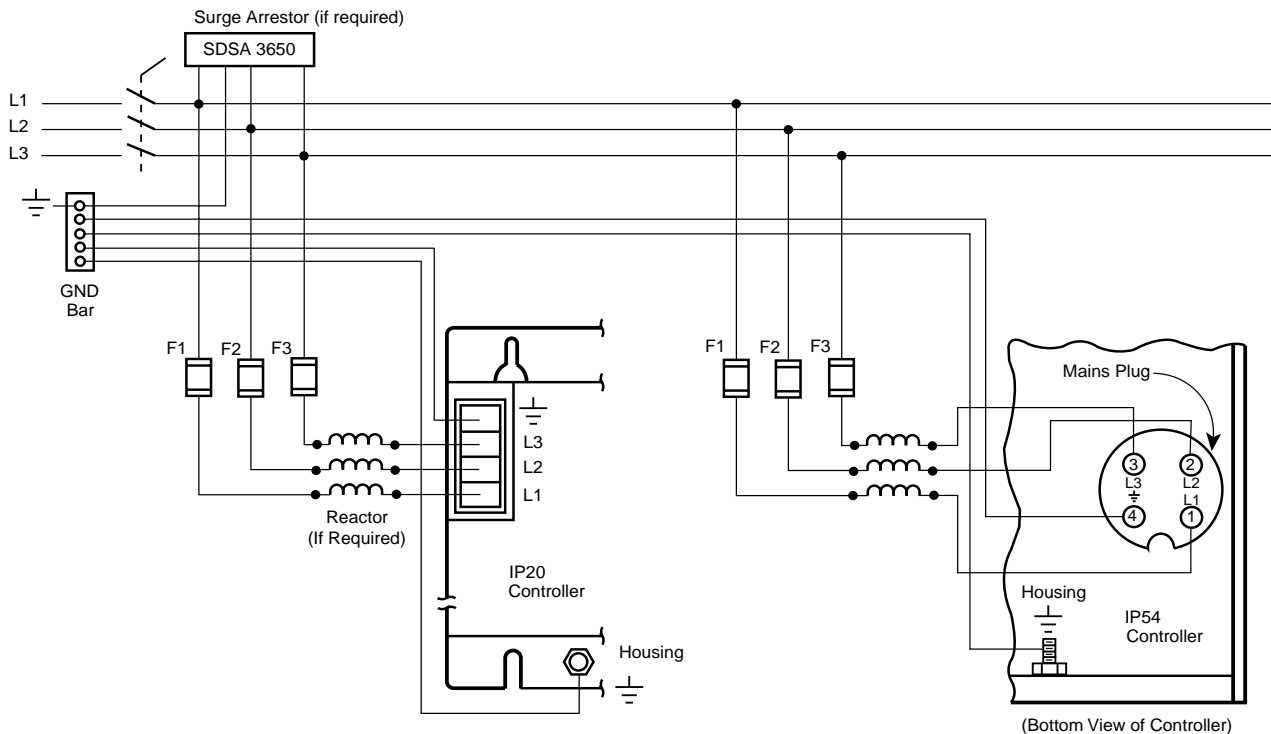

Fig. 4.8 Mains connection for three-phase controllers
► Connect the controller as shown in Fig. 4.8. A disconnecting means must be installed on the branch circuit feeding the controller. **Use of a surge arrester is recommended! Refer to section 3.2.1 for a recommended arrester.**
- Ground the controller as shown. Due to the magnitude of the leakage current, compliance with EN50178 requires the presence of an additional grounding connection. The additional grounding connection should connect the controller housing to the enclosure grounding bar as shown in Fig. 4.8.
- Install fuses as shown in Fig. 4.8. Refer to section 3.2.1 for required fuses.